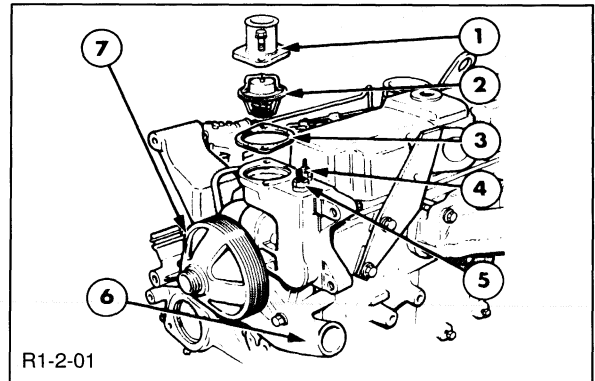

Figure 6-333
1. Figure 6-333, 4-cylinder, & 6-334, 6-cylinder, coat a new gasket, 3, with sealer and place it in the recess on the thermostat housing, prior to installing the thermostat.